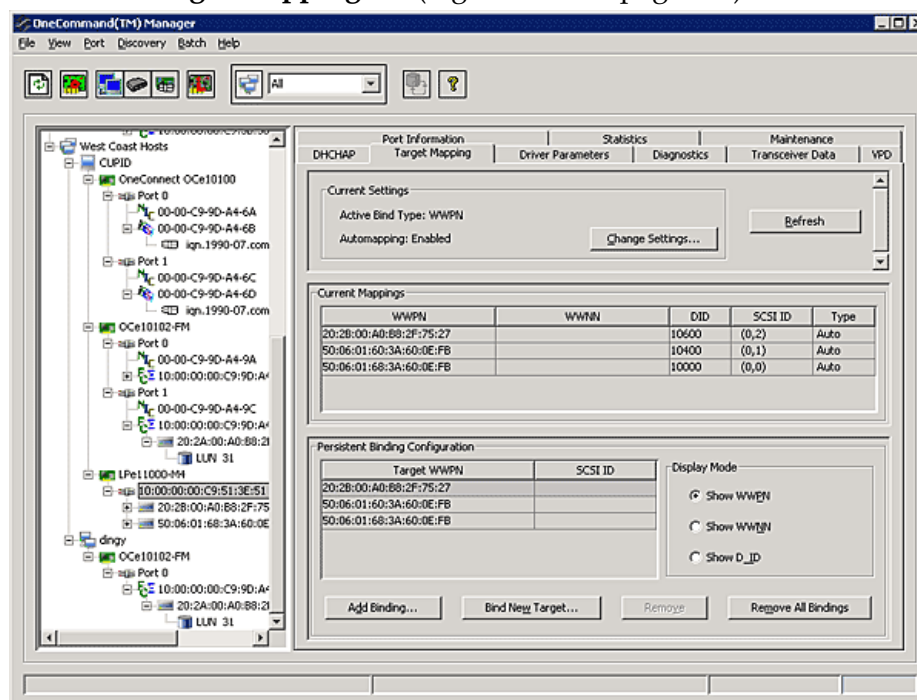

Figure 8-20 Target Mapping Tab
The Target Mapping tab (Figure 8-20 on page 143) enables you to view current target mapping and to set up persistent binding.
3. Select the **Target Mapping** tab (Figure 8-20 on page 143).
3. Select the **Target Mapping** tab (Figure 8-20 on page 143). All targets are displayed.